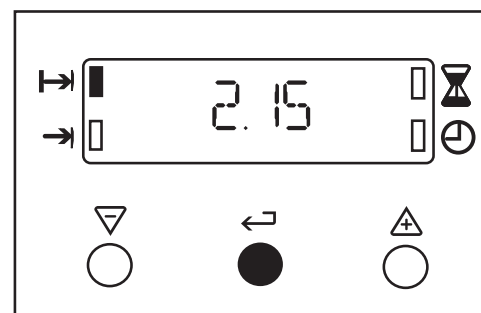

Fig.11.
- vii) To check the 'End Time' during the cooking period, simply press the Selector Control button once and the remaining time will be displayed, as Fig. 11.